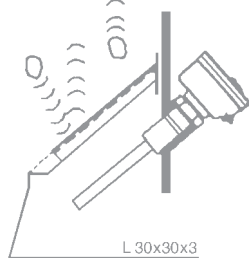

Figure 3
4. When the falling material can damage the rod by its nature (rough, heavy or with sharp angles) then protect the sensor. See **Figure 3**.